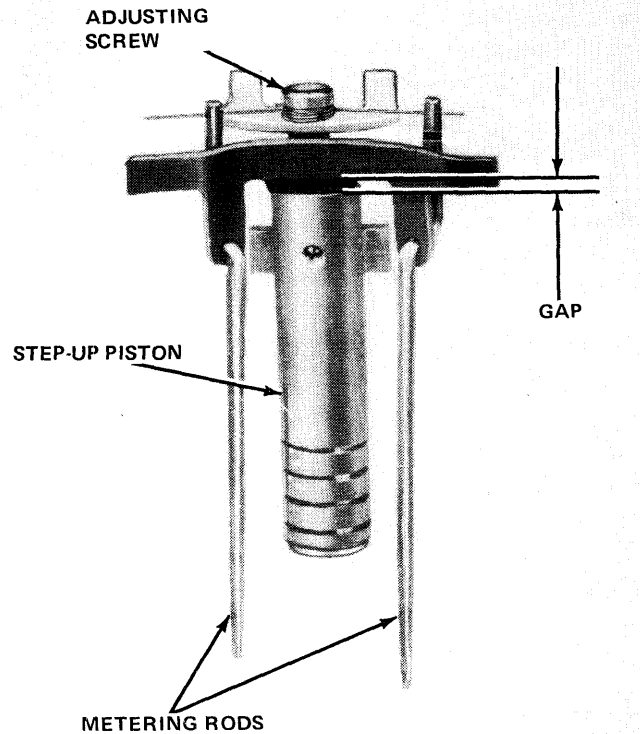

Fig. 4-55 Vacuum Piston and Metering Rod Assembly
(5) Clean passages and ball seats if leakage is evident. If leakage persists, replace main body.
(6) Install replacement gaskets on venturi cluster, install cluster screws and tighten securely.
(7) Install main metering jets.
(8) Install floats with fulcrum pin and pin retainer in main body. Install needle, seat and gasket and tighten securely. Adjust float level. Refer to Service Adjustment Procedures. Install baffle plate.
(9) Place accelerator pump drive spring on pump plunger shaft and insert shaft into air horn. Compress spring and insert S-link.
(10) Place vacuum piston spring in vacuum piston bore. Position replacement gasket on main body and install air horn. Tighten retaining screws alternately a little at a time to compress the gasket evenly.
(11) Check vacuum piston gap. Refer to Service Adjustment Procedures and fig. 4-55. Carefully install step-up piston and metering rod assembly into its bore in the air horn. Be sure metering rods are in main
metering jets. Be sure metering rod springs are installed properly. See figure 4-55.
The vacuum piston gap is a critical adjustment (fig. 4-55). Turning the adjusting screw clockwise makes the fuel mixture richer. Turning the adjusting screw counterclockwise makes the fuel mixture leaner. Adjustment must be within the OK range specifications. Refer to Carburetor Service Specifications.